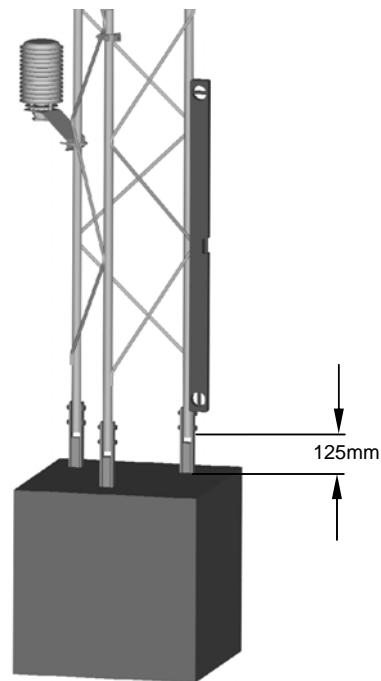

Figure 4 Levelling the Tower
3. Pour the concrete mixture into the hole and check that the tower is upright using a spirit level. Ensure that the bolts securing the tower to the legs are at least 125mm above the final surface of the concrete mixture (see Figure 4).